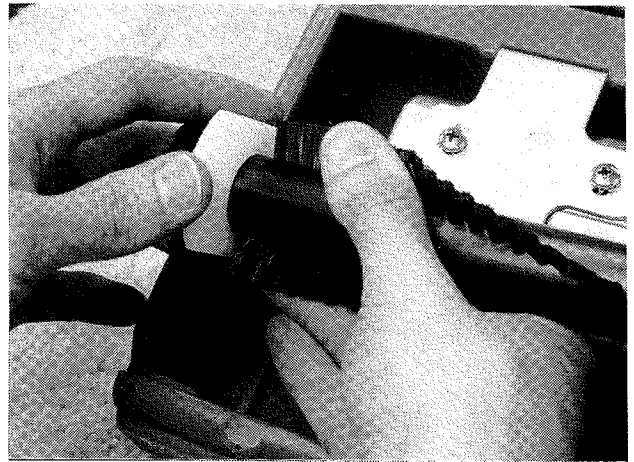

Figure 4
- d. Hold the brush and rotate each of the two white bearing blocks, #53 until you see the number 2 on each block. See **Figure 4**.